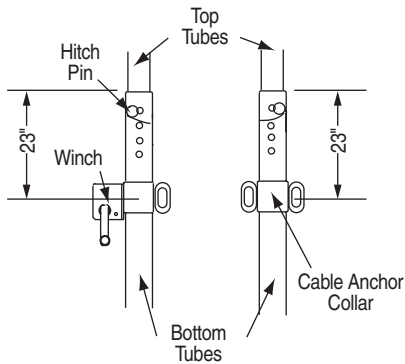

Figure 1
- ③ Attach winch assembly onto one 3 1/2" O.D. bottom tube. Locate approximately 23" from end with holes, and tighten screws with allen wrench (see Fig. 1).
- ④ Attach cable anchor collar onto the other 3 1/2" O.D. bottom tube. Locate approximately 23" from end with holes, and tighten screws with allen wrench (see Fig. 1).